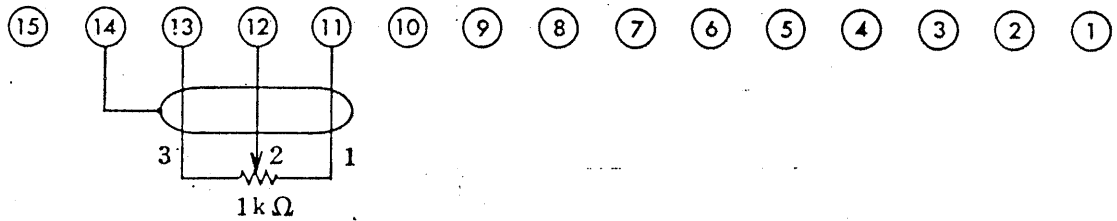

Figure 2-12-3
3. Connect a 1 kΩ variable resistor to the terminal board on the rear panel, as shown in Fig. 2-12-3. The variable resistor should be a 10-turn potentiometer.